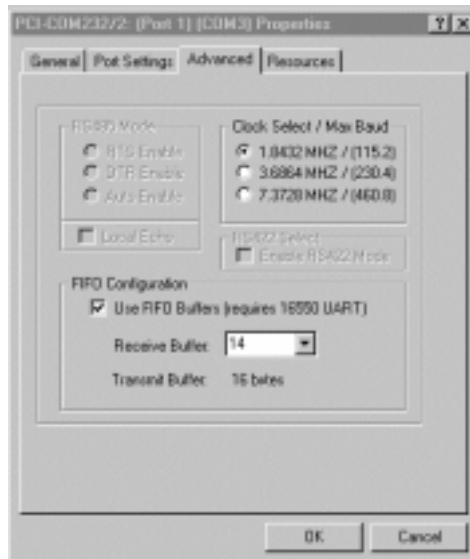

Figure 2-2. PCI-COM232 (Port1) (COM3) Properties Screen Display
- Select the desired UART clock rate from the radio buttons as shown in Figure 2-2: